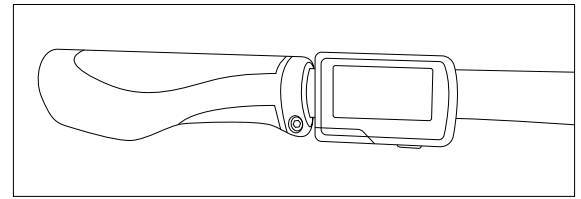

Figure 4.37 Grip Pro display assembly
1. Mount the display to the handlebars (Fig. 4.37 to 4.41). Tighten the fasteners to 0,5 Nm